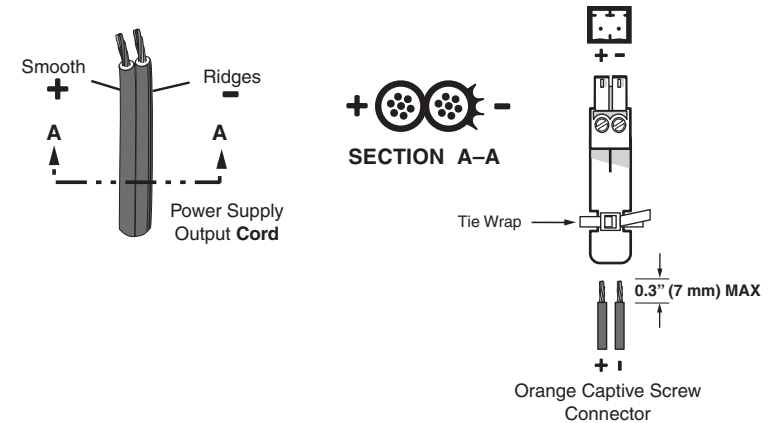

Figure 12 — Power connector wiring
- 10 **Power connector** — Plug the external 12 VDC power supply into this 2-pole captive screw connector. The power supply is included with the unit. Figure 12 shows how to wire the connector.
CAUTION Power supply voltage polarity is critical. Incorrect voltage polarity can damage the power supply and the MDA. Identify the power cord negative lead by the ridges on the side of the cord (figure 12).